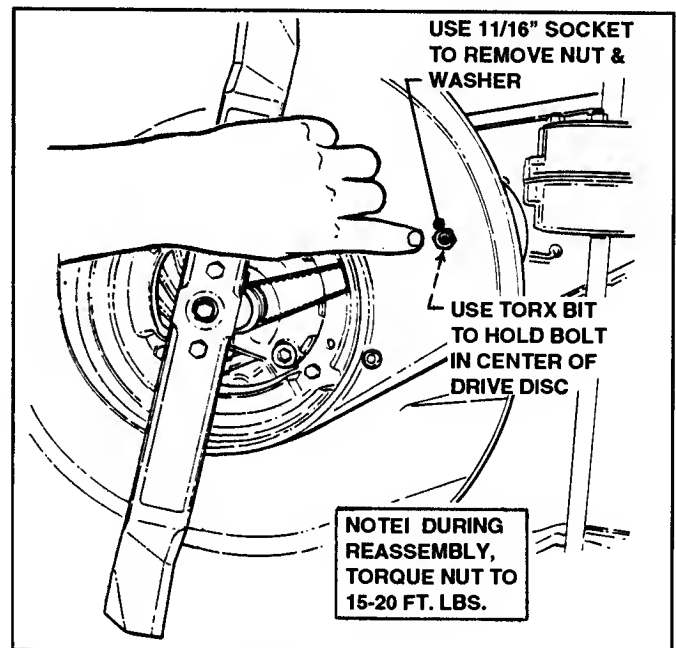

FIGURE 3.22
6. Using a™ TORX T-50 bit to hold the inside of the Drive Disc bolt, remove the nut and washer from underside of mower with 11/16" socket. See Figure 3.22.